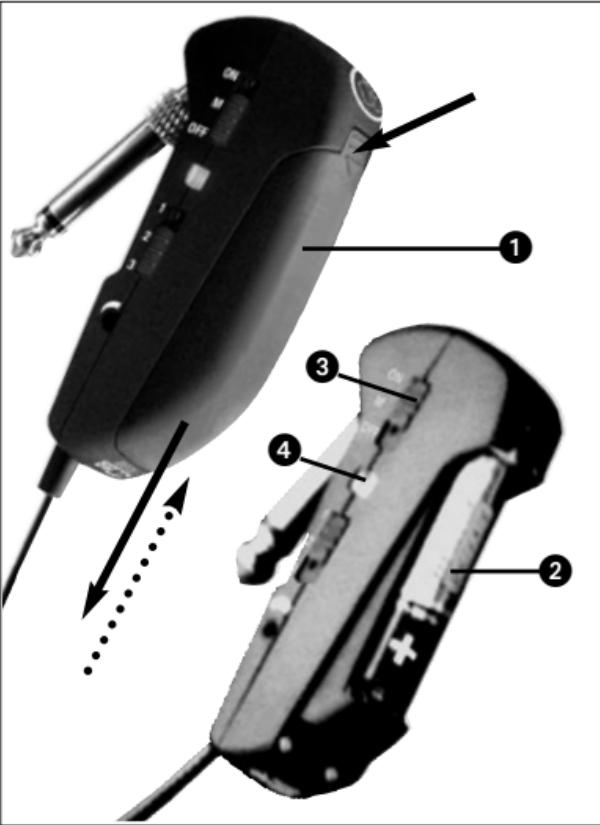

Fig. 2: Inserting a battery.
### 3.1 Inserting/Replacing and Testing Batteries (refer to fig. 2 on page 14)
4. Insert the supplied or new battery (2) into the battery compartment as shown in fig. 2.
5. Set the ON/MUTE/OFF switch (3) to ON.